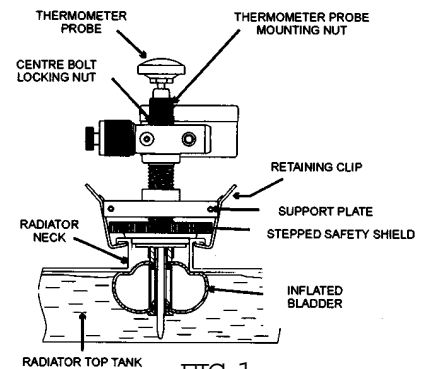

FIG 1.
- 3.2.1. To ensure secure fitting and positive sealing it is important that the analyser is adjusted so that two-thirds of the bladder is below the lower flange of the radiator or header tank neck before being inflated (see FIG. 1). To ensure this setting is correct use the following steps: